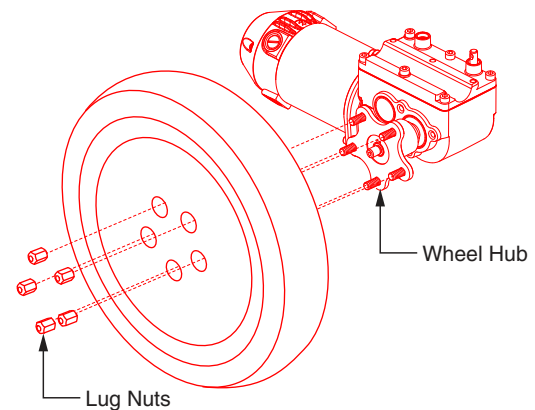

Figure 21. Q6 Edge 2.0 Series Drive Wheel
4. Remove the five (5) lug nuts from the wheel hub. **See figure 21.**